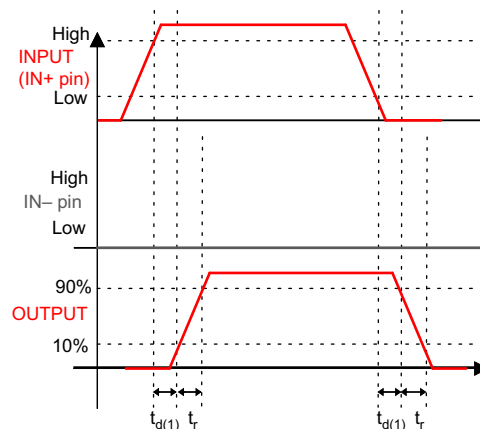
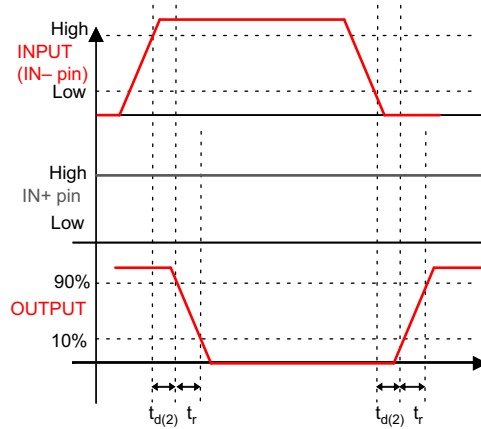

图 5-1. Non-Inverting Configuration (PWM Input to IN+ pin (IN - Pin Tied to GND), Output Represents OUTH and OUTL Pins Tied Together in the UCC27511A)
图 5-2. Inverting Configuration (PWM Input to IN – Pin (IN+ Pin Tied to V_{DD}), Output Represents OUTH and OUTL Pins Tied Together in the UCC27511A)
$V_{DD} = 12\text{ V}$, $T_A = T_J = -40^\circ\text{C}$ to 140°C , $1\text{-}\mu\text{F}$ capacitor from V_{DD} to GND. Currents are positive into, negative out of the specified terminal. See 图 5-1, 图 5-2, 图 5-3, and 图 5-4
(1) See timing diagrams in 图 5-1, 图 5-2, 图 5-3, and 图 5-4.